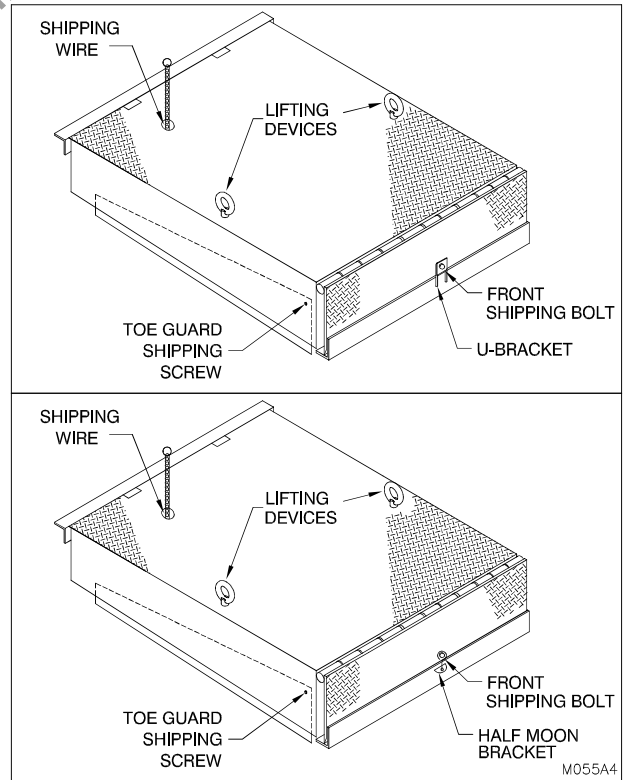

Figure 34: Shipping Wire, Bolts and Lifting Devices.
11. ___ Remove the shipping wire. Then remove the top shipping bolts (if equipped) and front shipping bolts and lifting brackets. (See “Figure 34: Shipping Wire, Bolts and Lifting Devices.” on page 25)